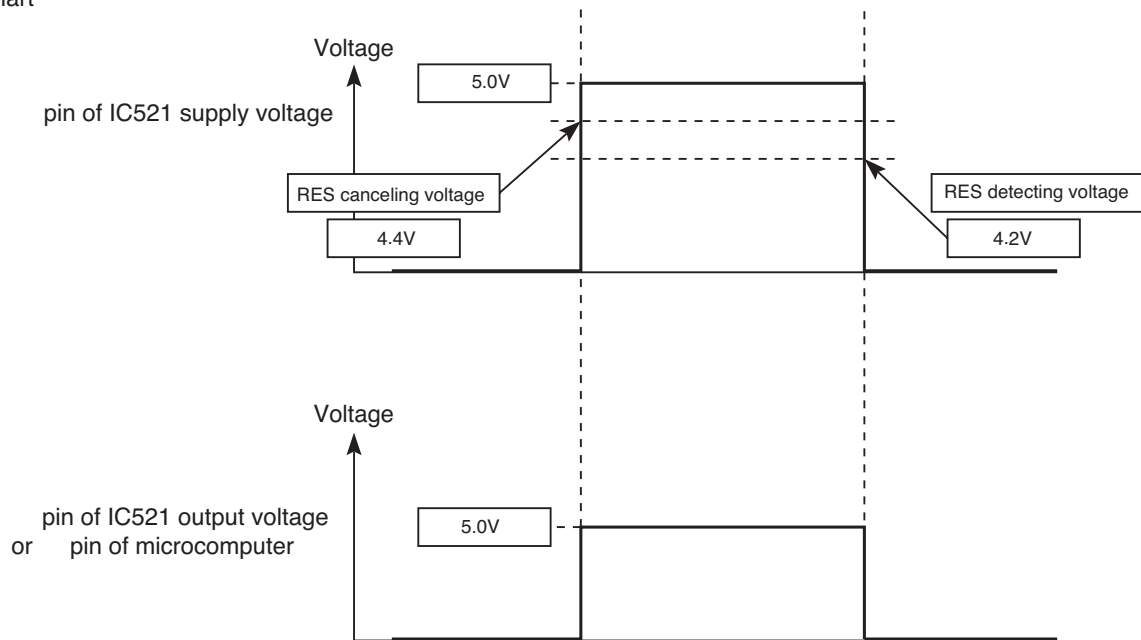

Fig.2-2
- Waveform of each part when switching ON the power and when shutting down is shown in the Fig. 2-2.